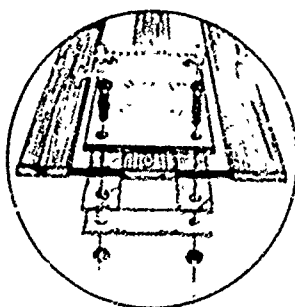

Figure 9-15. Mounting RL-39 to Vehicle.
(2) Have holes drilled in metal strips to match those in the board. The metal strips should be about twelve inches long and three inches wide. Using four bolts install the reel equipment on your vehicle as shown in Figure 9-15.